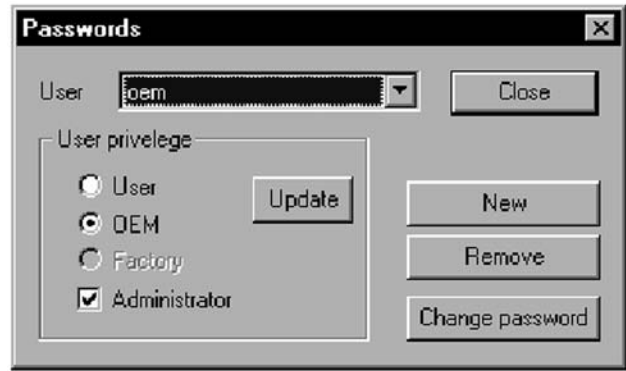

Fig. 15 — Change Password Window
1. Select Change Password from the File menu. Change password dialog appears. See Fig. 15.